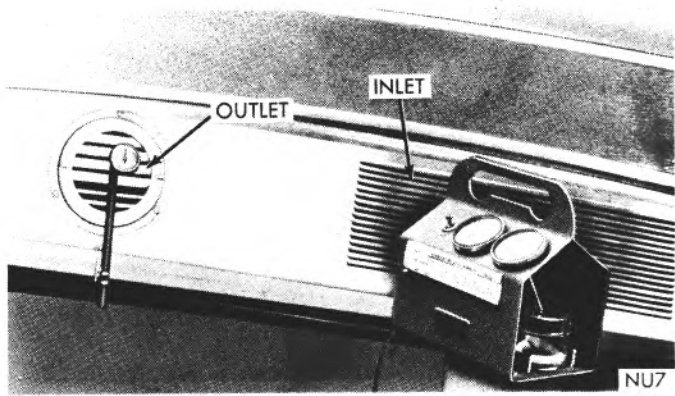

Fig. 18—Roof Unit Performance Test
(1) Connect a jumper from the positive terminal of the battery to the compressor so that the refrigeration part of the entire system can be operated without air-flow through the front unit.
(2) Open the windows, adjust engine speed to 1300 rpm and close the hood. Turn roof unit blower motor switch to "high" speed position.
(3) Place motor-driven psychrometer Tool C-3704 near roof unit air outlet grille and a thermometer Tool C-3623 in right-hand air outlet grille (Fig. 18).
(4) Operate the air-conditioning system until a stabilized condition on the gauges and thermometers has been established. One of the most important factors in making the over-all performance test is that the engine must be operated at 1300 rpm for a sufficient time to build up to operating temperatures and allow all the under-hood components of the system to be subjected to the under-hood operating temperatures for a period of time.
(5) Partially close the needle valve, located below the discharge pressure gauge, to minimize oscillation of the discharge gauge pointer. Do not close the needle valve completely since this would prevent discharge pressure gauge from registering discharge pressure.
(6) Read the discharge pressure on the gauge. This test should be performed with the discharge pressure from 190 to 210 psi. The 190 to 210 pound-pressure is for test purposes only. These pressures change according to the ambient temperature, humidity and the efficiency of the entire system.
(7) Take the necessary steps to bring and maintain the discharge pressure within these limits.